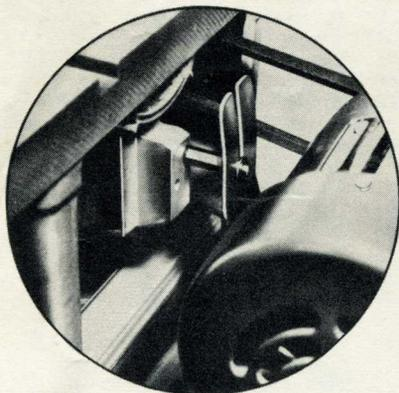

FIGURE 3
Install as shown in Fig. 3 and outlined under "Installation of Saw".
**The Motor Mount Bracket** should be installed as shown in Fig. 3.
2. Fasten the motor rail bracket, No. 23, to the rear of the saw so it is flush with the bottom of the base. Use the two (2) slotted head machine screws, No. 29, lock washers, No. 22, and hex nuts, No. 21 provided.
3. Turn the guide pin, No. 35, into the hole at rear of saw body as shown in Fig. 3.